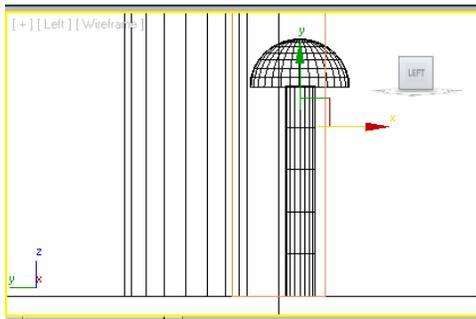

Figure 2-67 Alignment of *cap* and *body*
- Next, align *cap* and *body* of the rivet in the Left viewport using the **Select and Move** tool, as shown in Figure 2-67.